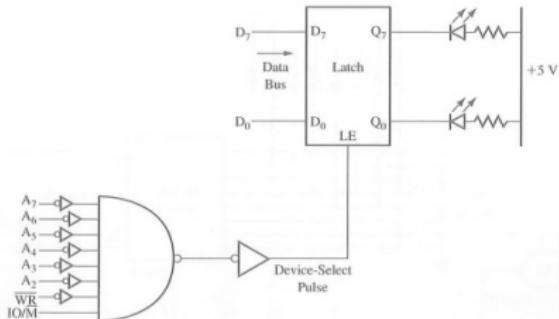

Figure 53: Interfacing an IO - **partial decoding**
- In the figure 53 only some address lines are combined to generate the IOSEL pulse. A₁ – A₀ are not used instead they are replaced IO/\overline{M} and \overline{WR}